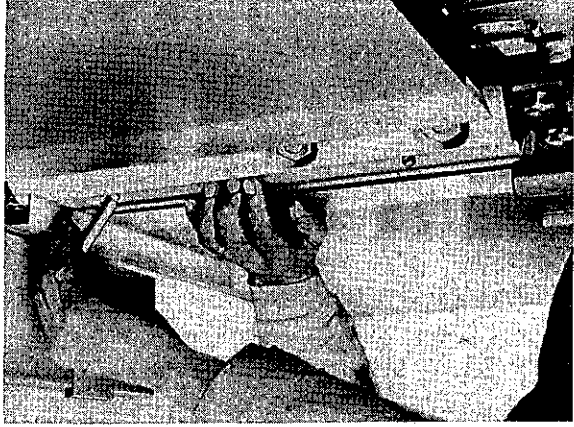

FIG. 12
4. Place a long straight edge on the back table allowing it to project over the cutterblock as Fig. 12 and with the table  $1/16''$  (1.5mm) above the body of the block.
Adjust the knife with special key inserted in the head of the screw as Fig. 12 until the knife lightly makes contact with the straight edge. This is done by a partial turn of the block during the adjusting process. It is advisable to move the straight edge to two or three positions along the block to ensure the knife is set parallel. Proceed with the remainder of the knives in a similar manner.